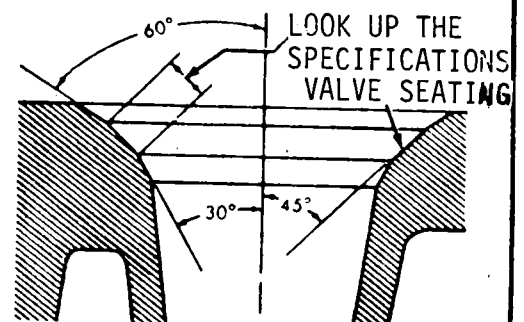

Fig. 1
a) Prepare the grinding equipment for the valve seatings, selecting the type of stones according to the angle (fig. 1), the bushing to be used, and the guide shaft to be inserted in the valve guide.